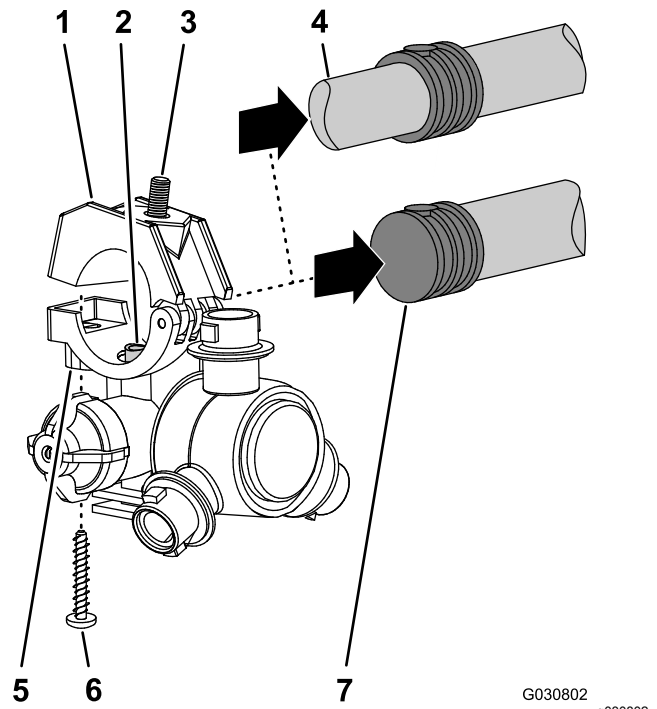

Figure 70
8. Working with the 12 sprayer nozzles that you removed from the outer- and center-boom sections, remove the stainless steel screws (#12 x 1-1/4 inches) that secures the upper clamp halves and the double or single barbed-hose shanks (3/4 inch) to the body of each of the sprayer nozzle, and remove the barbed-hose shanks (Figure 70).